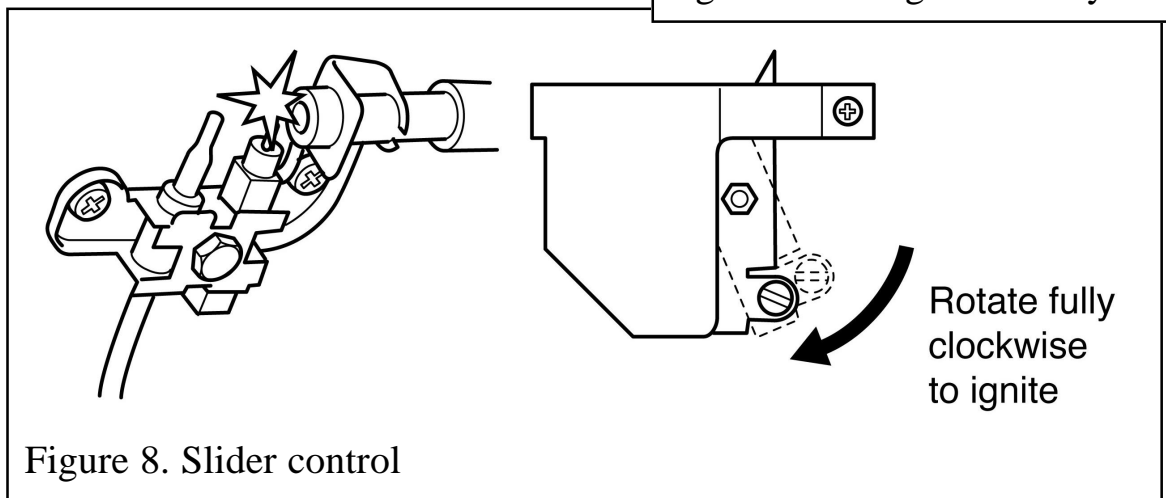

Figure 8. Slider control
- Depress the control pivot plate as far as it will go. This should close the ignition circuit. Sparks should be seen tracking from the electrode pin to the pilot tip (See figure 8).
2. Depress the control pivot plate as far as it will go and hold in this position (See section 6, figure 8). This should close the ignition circuit and (now that the gas is connected) simultaneously open the gas tap allowing the gas to flow to the pilot. Wait a few seconds while the air is purged. The electronically generated sparks should light the pilot. The pilot should then light the main burner at its low setting. There may be a delay of up to four seconds between the pilot lighting and ignition of the gas at the main burner. This is normal and is due to the time required to fill the main burner compartment with sufficient gas for ignition.